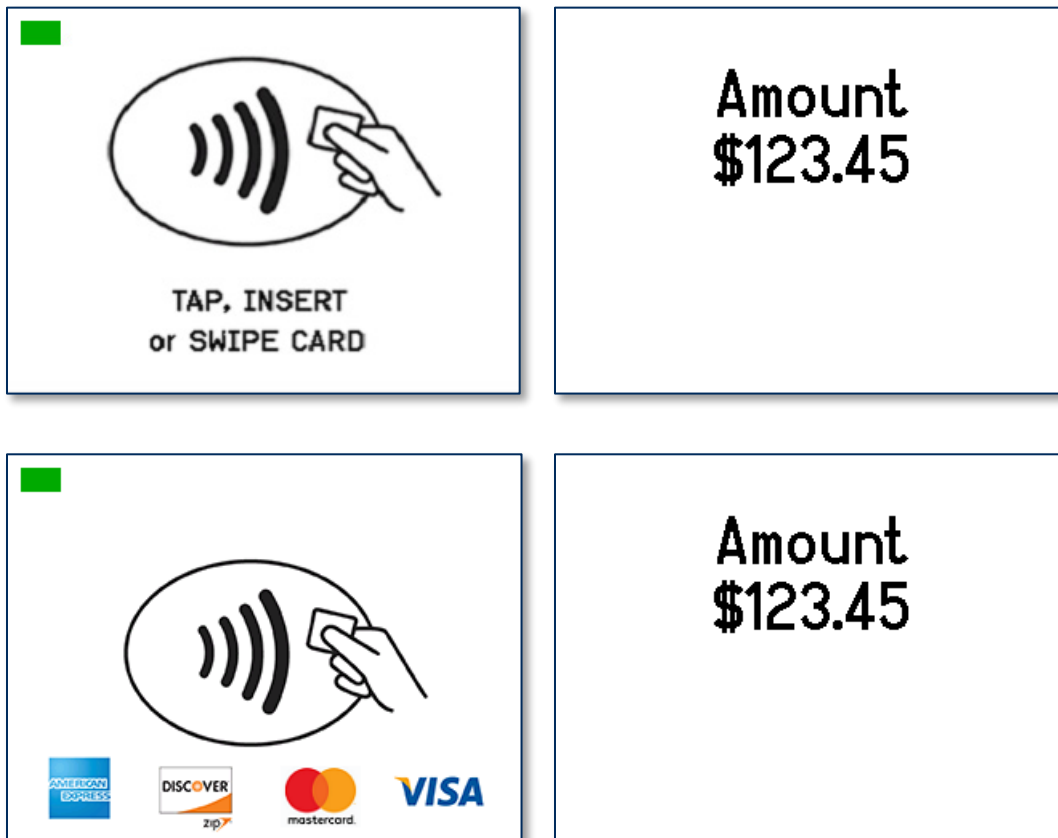

Figure 6-17 - Example Contactless Transaction Screens
- 1) Wait for the display to toggle between the transaction amount and an action prompt (see **Figure 6-17** for examples). The device also shows a solid green rectangle at the upper left corner of the display indicating it is ready for a tap.